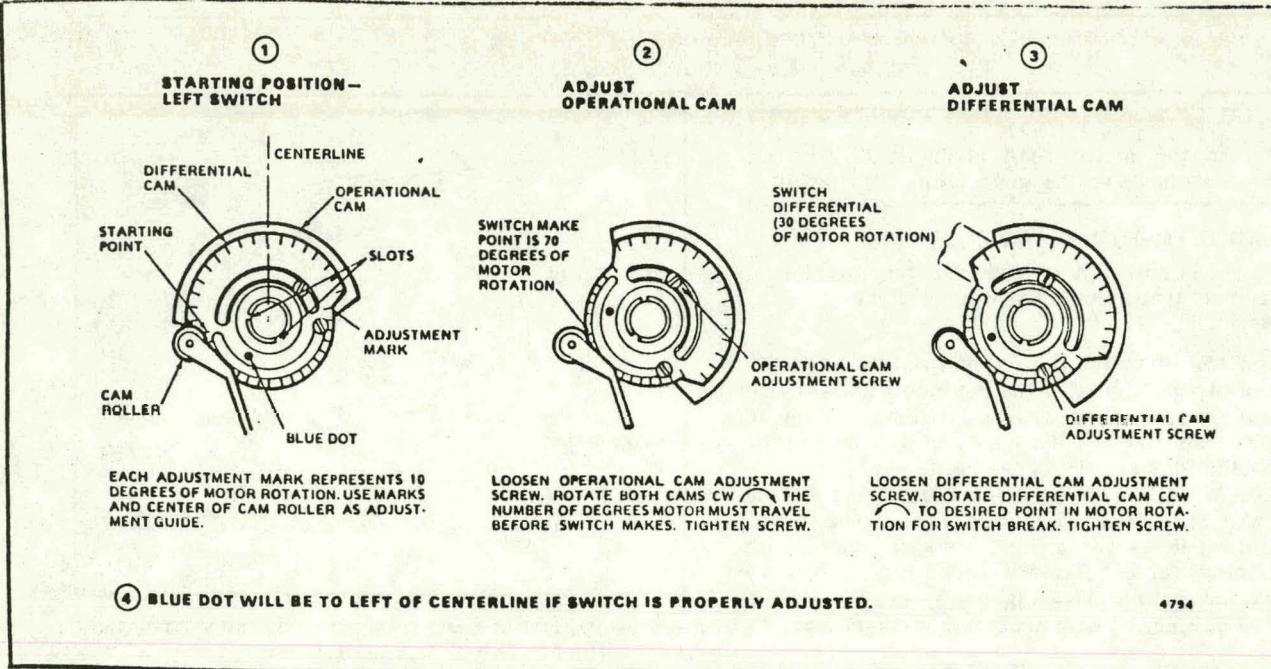

FIG. 9—ADJUSTING LEFT SWITCH MAKE AND BREAK POINTS.
5. Adjust left switch (inner cam) first. See Fig. 9.